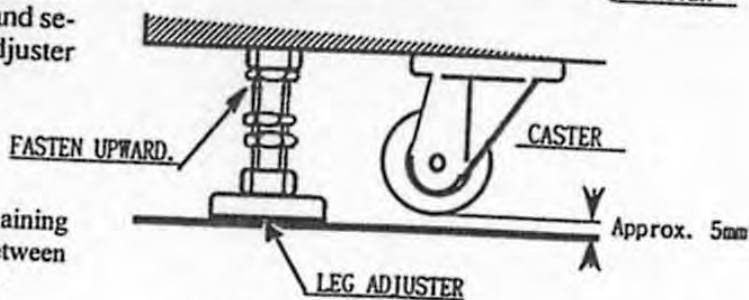

FIG. 6.6 LEG ADJUSTER
- 2 Attach the joint plate for the 2 internal leg adjusters shown. First, cause the other 6 leg adjusters to come into contact with the floor. Make leg adjuster adjustments with a wrench in a manner to ensure the machine's position is level (Fig. 6.6).
- 3 After making adjustments, fasten the leg adjuster nut upward and secure the height of the leg adjuster (Fig. 6.6).